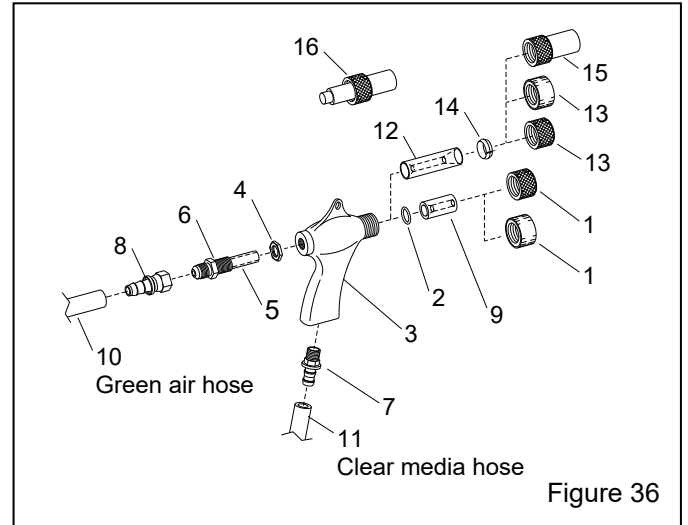

Figure 36
9.3 BNP® Gun and Hose Assembly – Figure 36